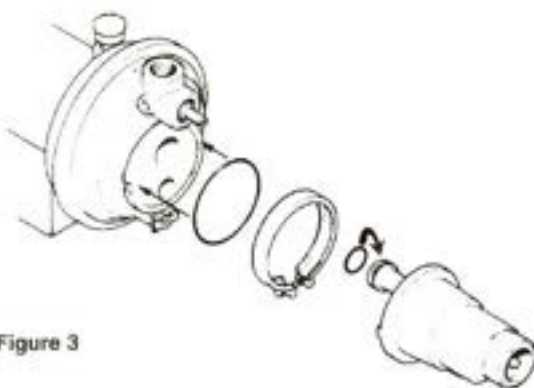

Figure 3
11. Place O-Rings in grooves on venturi and pump flange (see Figure 3).